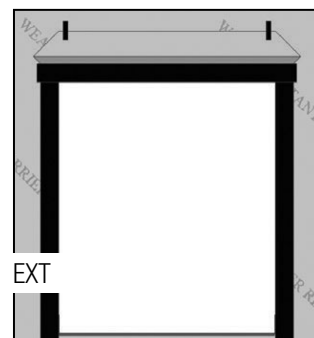

FIG. 8
- F) Cut and apply flashing to both sides and the top of the rough opening. Overlap the top flashing over the side flashing. The flashing should run at least 6" past each side of the rough opening. (Fig. 8)